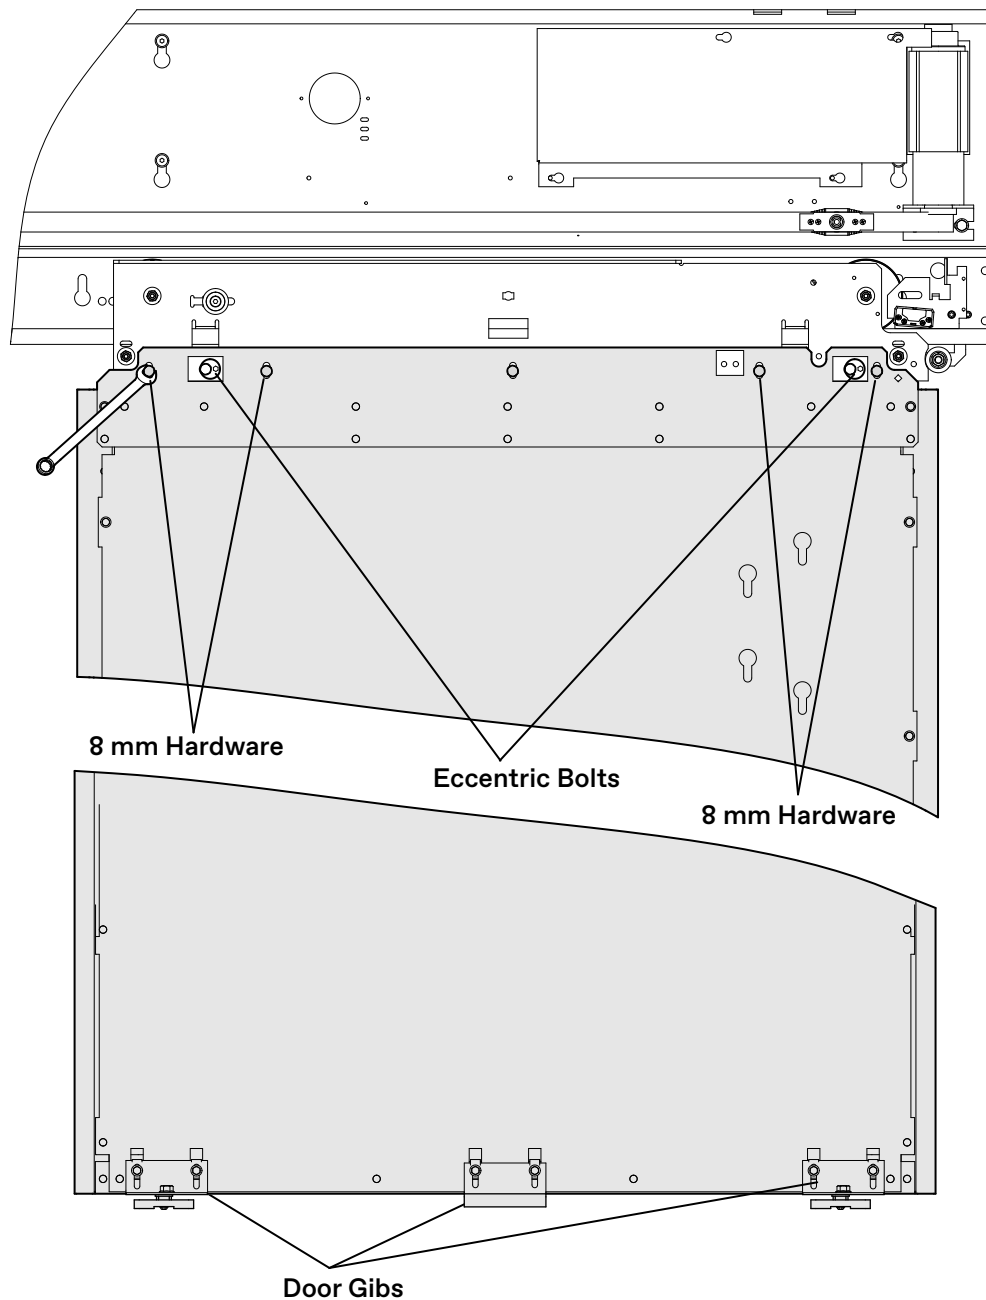

Figure 43 - Tighten Mounting Bolts
4. Use a 13 mm wrench to tighten the eccentric bolt; then tighten the mounting bolts. See Figure 43 on page 48.